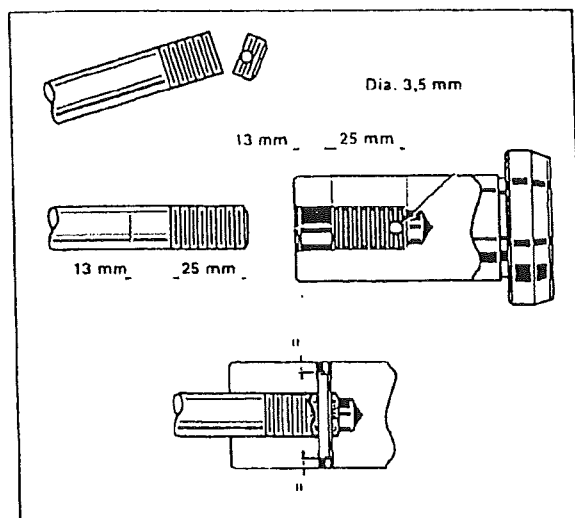

Figure 3 — Plug Stem pinning
- Using a drill punch, drive out the old pin (5).
- Cut off the stem directly above the pin hole (Figure 3).
*Note: The area of the plug stem marked 13 mm in Figure 3 serves as a guide and must be checked to insure a close fit in the regulator plug*